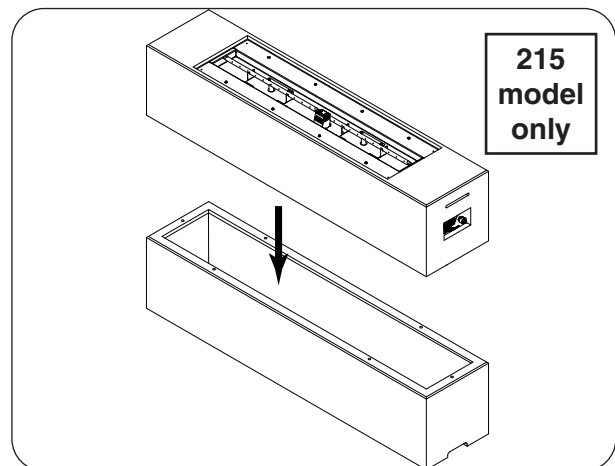

Fig. 24-2 Place top (if applicable)
1. Align the top piece over the bottom piece as shown in Fig. 24-2.